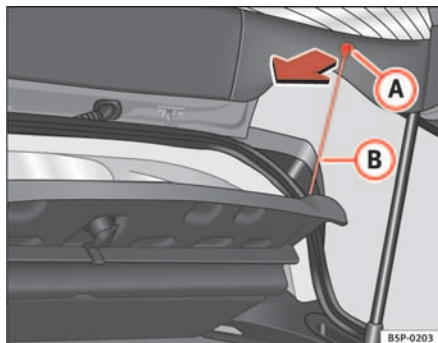

Fig. 119 Luggage compartment cover
- Disengage the loops ⇒ fig. 119 (B) from the allotments (A).